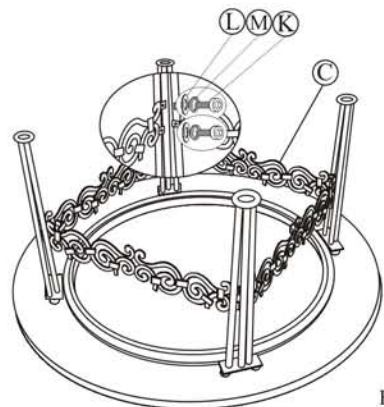

Figure 2
CAREFULLY NOTE THE PROPER POSITION FOR ASSEMBLY OF THE DECORATIVE TRIM IN FIGURE 2 BEFORE BEGINNING THIS STEP. Attach Decorative Trim (C) to Firepit Legs (B) using 1/4" x 18mm Hex Bolts (K), 1/4" Washers (L), and 1/4" Lock Washers (M) as shown in Figure 2. Tighten nuts and bolts a few revolutions at a time only as some adjustments may be necessary for proper alignment of the Firepit Legs and the Tabletop Rim. **DO NOT TIGHTEN COMPLETELY.**